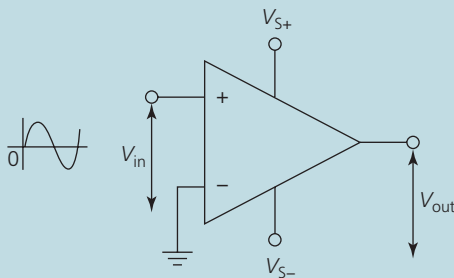

Figure 4
2. The circuit in Figure 4 shows an op-amp with the inverting output connected to ground and an alternating voltage applied to the non-inverting input. Sketch the graph of  $V_{\text{out}}$  against time that you would expect to see, and explain the operation of the circuit.